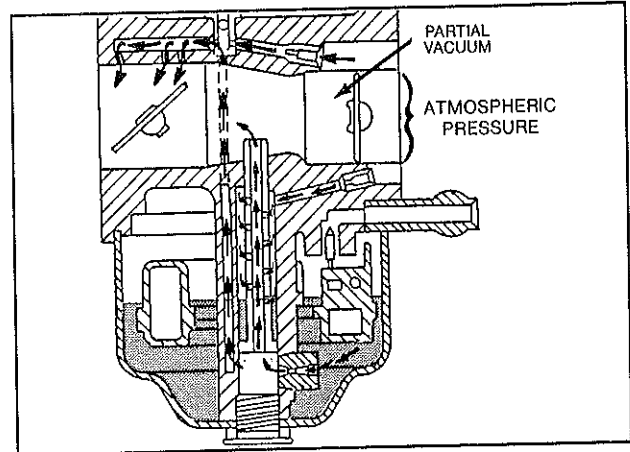

Fig. 7 - Choke Operation
1. As the piston opens the intake port, a partial vacuum forms in the carburetor behind the choke valve, Fig. 7.